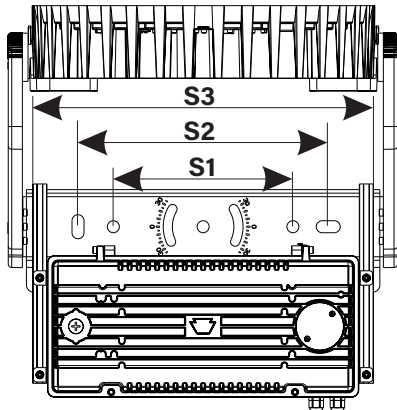

Figure 3
- Shown below are the drill holes and measurements required for each sports light. Figure 3 shows patterns for KT-SLFLED750-M1-XX-YM-750-VDIM and KT-SLFLED750HV-M1-XX-YM-750-VDIM. Figure 4 shows KT-SLFLED500-S1-XX-YM-750-VDIM and KT-SLFLED500HV-S1-XX-YM-750-VDIM.